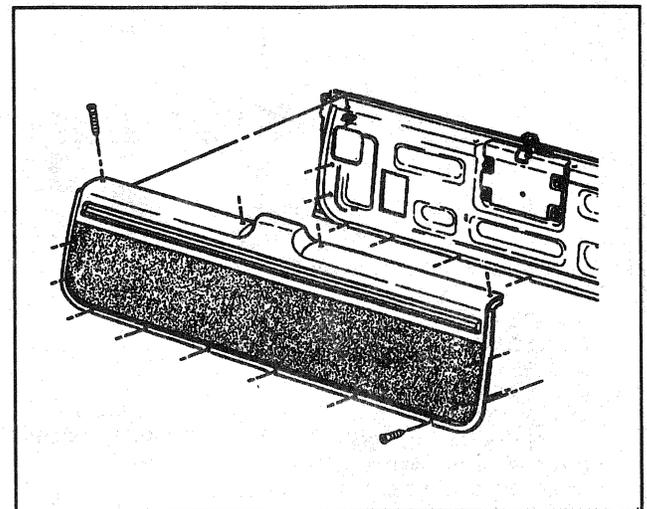

Figure 6—Trim Panel and Belt Weatherstrip
**Remove or Disconnect (Figure 6)**
**Install or Connect (Figure 6)**
Adjust (Figure 6)
Remove or Disconnect (Figure 6)
Install or Connect (Figure 6)